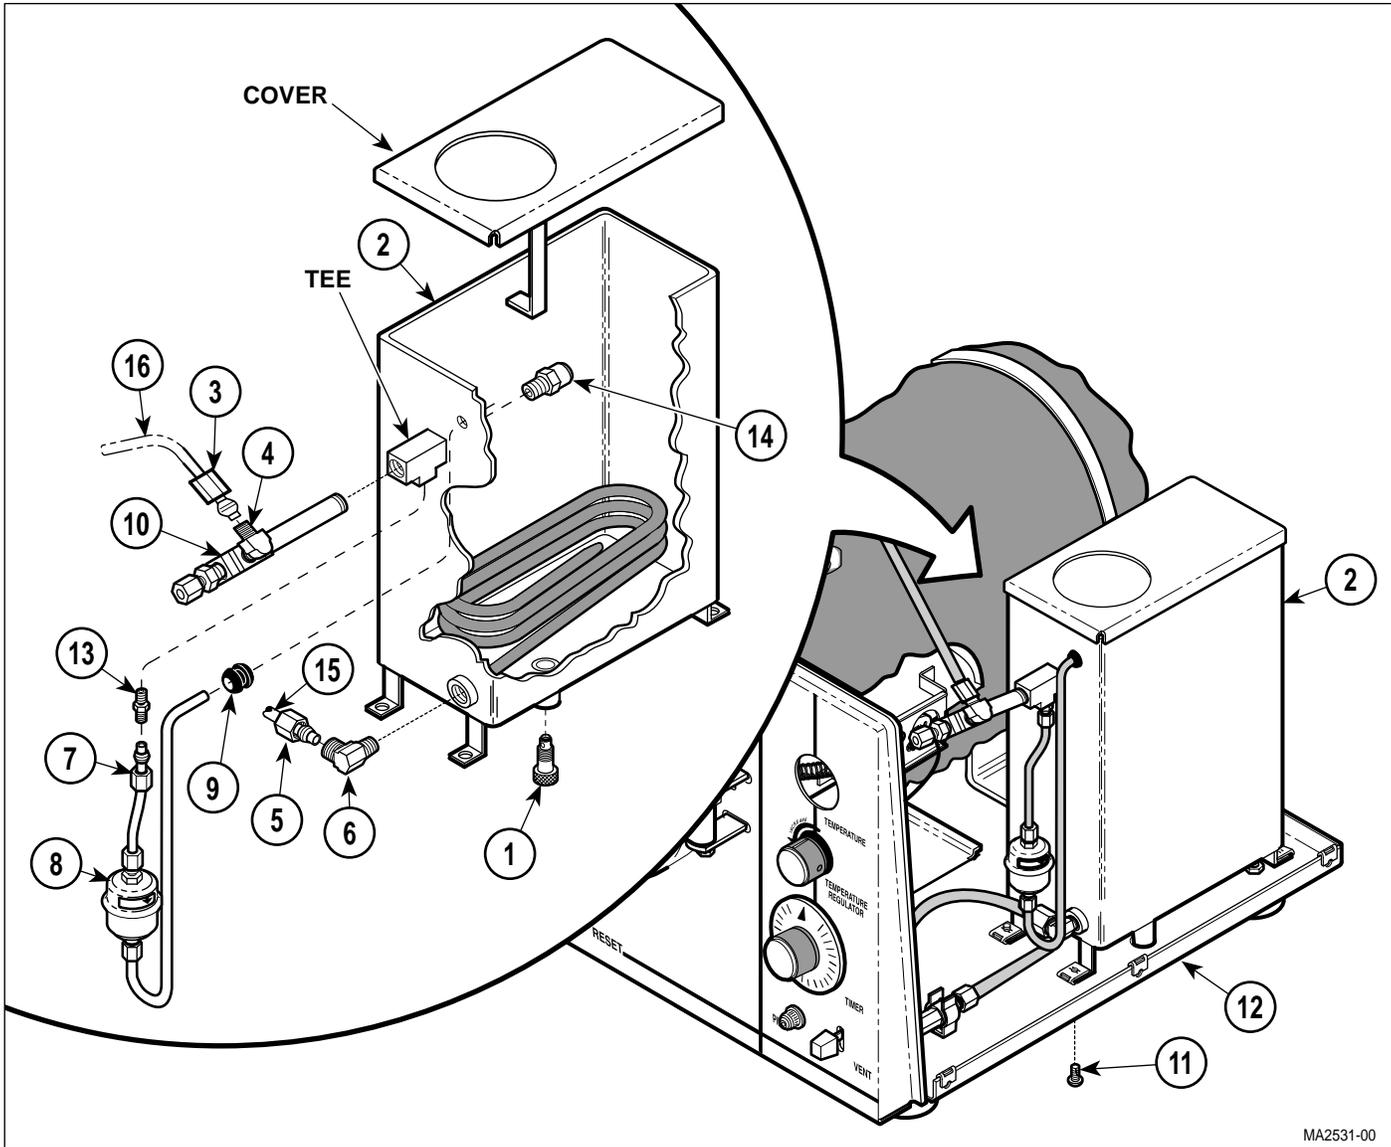

Figure 4-24. Condensing Tank Removal / Installation
(2) Remove drain (1, Figure 4-24) and drain water from tank assembly (2).
(3) Remove temperature gauge (Refer to para 4.12).
(4) Loosen and disconnect compression nut (3) from elbow (4).
(5) Loosen and disconnect compression nut (5) from elbow (6).
(6) Loosen and disconnect compression nut (7) and remove bellows assembly (8) and grommet (9) from tank assembly (2).
(7) Remove pipe-T assembly (10) from tee of tank assembly (2).
(8) Lay unit onto its side.